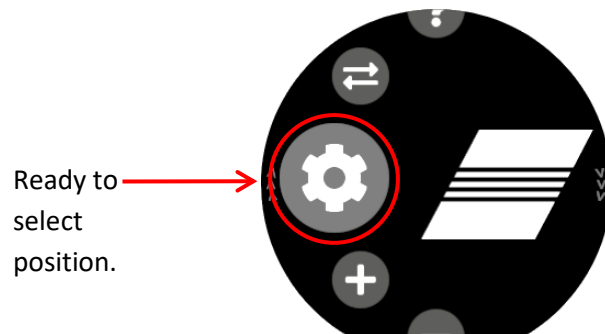

Figure 13: Ready to Select Position
6. Rotate Base Unit controller so the **Calibration** button is in the ready to selection position. See Figure 13.